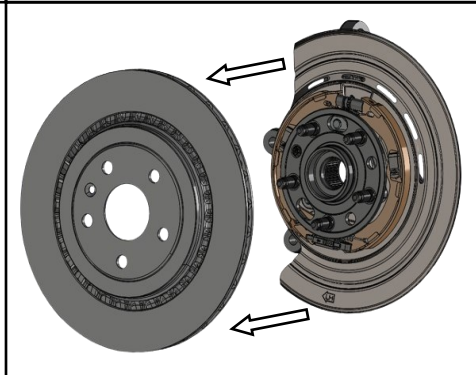

FIGURE 4. REMOVAL OF EXISTING BRAKE ROTOR
6. Remove the existing brake rotor from the hub (Figure 4).